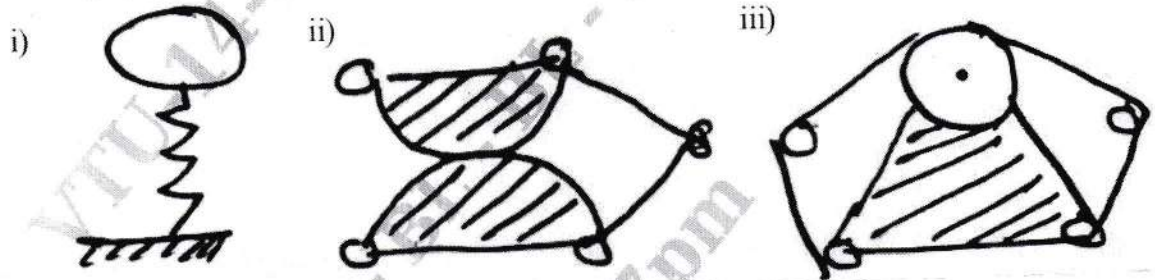

Fig.Q2(a)(i)(ii)(iii)
- 2 a. What are equivalent mechanism? Obtain the equivalent mechanisms of mechanisms shown below Fig.Q2(a).